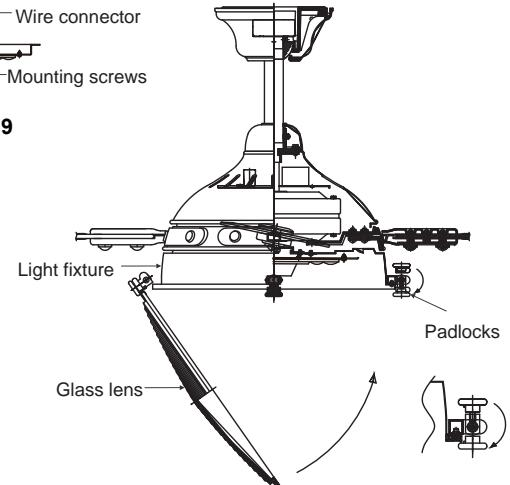

Fig. 20
**NOTE:** Make sure to the padlocks and tighten to prevent the lens holder from coming tumble. (**Fig. 20**)